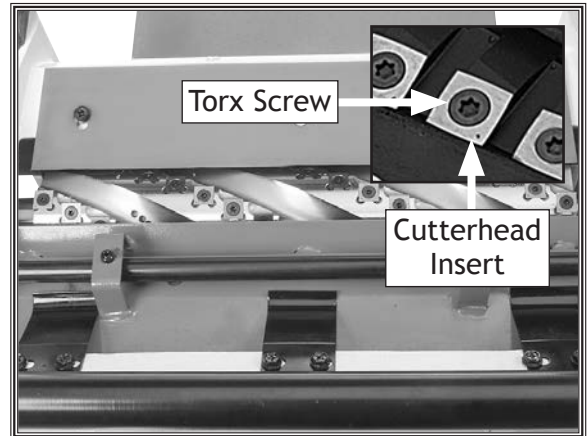

Figure 6. Insert and Torx screw location.
5. Remove any sawdust or debris from head of insert, Torx screw, and surrounding area (see **Figure 6**).